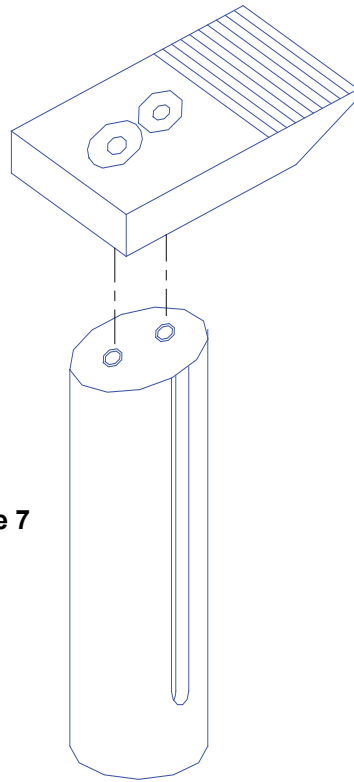

Figure 7
3. Screw the cylinder (11) all the way onto the housing (8).
4. Position the outside feet (2 and 3) against the bottom of the housing (8). Be sure to place the feet, which are marked (L) and (R), on the appropriate sides of the housing. The countersunk screw holes should be facing out, and not against the bottom of the housing (8).
5. Insert the flat head Allen screws (1) in the screw holes on the outside feet, and tighten them with a 5/16" Allen wrench to 35-40 Ft lis.
6. Place the center foot (5) on top of the piston. The countersunk screw holes will be facing up. See figure 7.